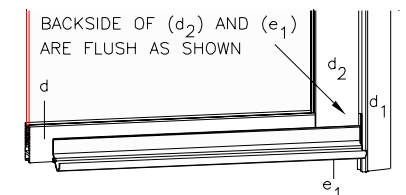
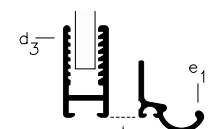

figure 5
figure 6
12. Adjust Door Assembly and Strike Post along curb as required. Note: Bottom of Door Assembly must always remain parallel to Sill in order for door to operate properly. When satisfied with door operation, secure Hinge Post and Strike Post to the Wall Jamb using 638PHPT Adjustment Screws (J), see exploded view - sheet 1.
13. Attach Drip Plugs (e4) onto Drip Rail (see exploded view - sheet 1). Clean bottom rail of door with alcohol to remove any oil. Failure to clean door rail prior to installation of Drip Rail (e1) may cause tape to release. Remove backing from tape and position Drip Rail flush with backside of Hinge Stile (d2) as shown in figure 5 and and figure 6. Slightly elevate Drip Rail at strike side before securing to create a sloping effect.